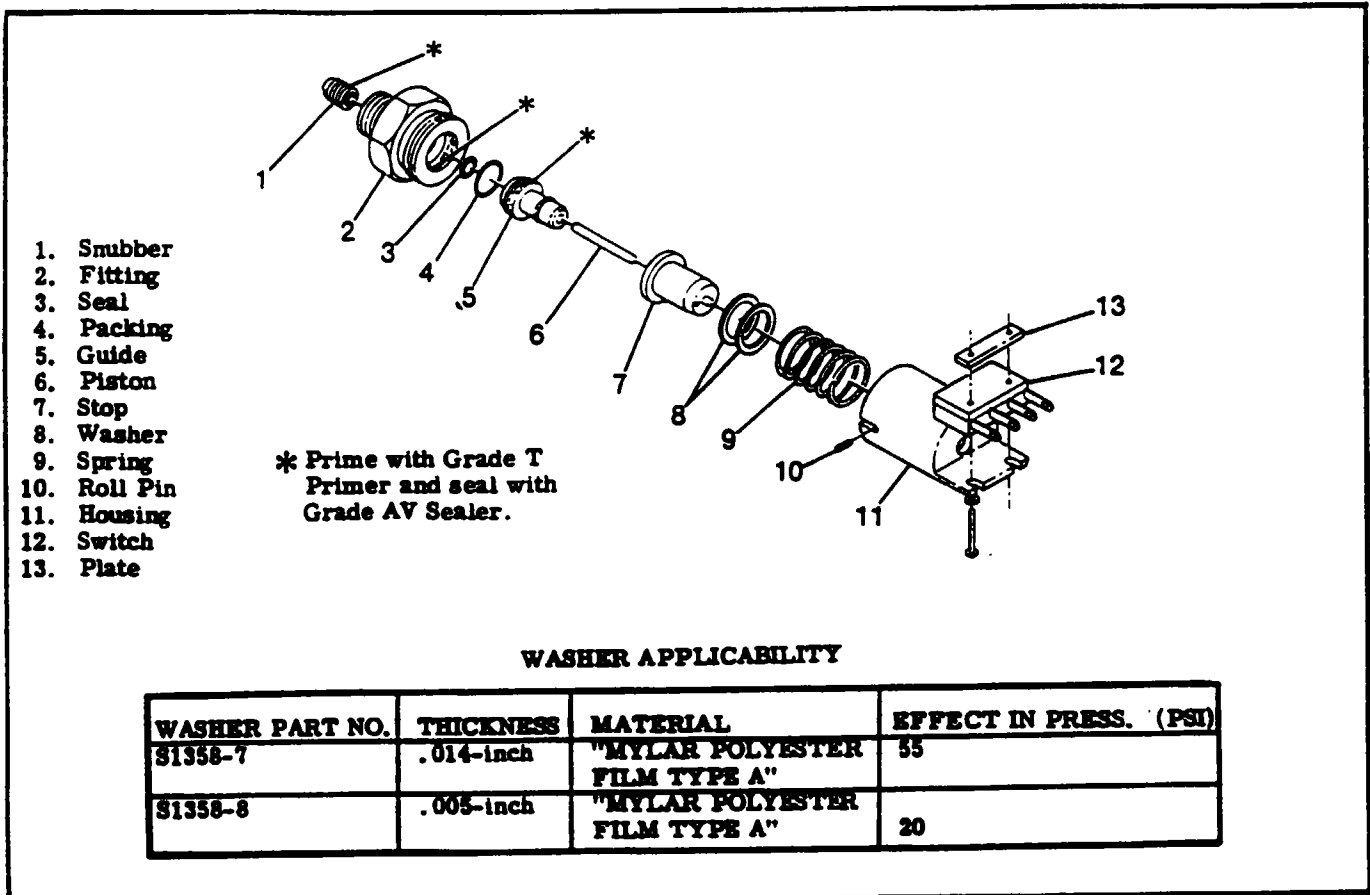

Figure 5-5. Pressure Switch
### 5-18. PRESSURE SWITCH. (Refer to figure 5-5).
### 5-21. DISASSEMBLY. (Refer to figure 5-5).
- f. Remove piston (6).
- g. Remove seal (3) and packing (4).
- h. Remove snubber (1) from fitting (2).
**5-22. INSPECTION AND REPAIR.** (See figure 5-5.)
- a. Clean sealant from threads of snubber (1), fitting (2) and guide (5) with wire brush.
- c. Discard seal (3) and packing (4), and replace with new parts.
- f. Snubber (1) can be cleaned with solvent, then blown out with high pressure compressed air.
- g. Assure that 0.062-inch vent hole is open in stop (7).
**5-23. REASSEMBLY.** (Refer to figure 5-5).
### 5-24. ADJUSTMENT. (See figure 5-5.)